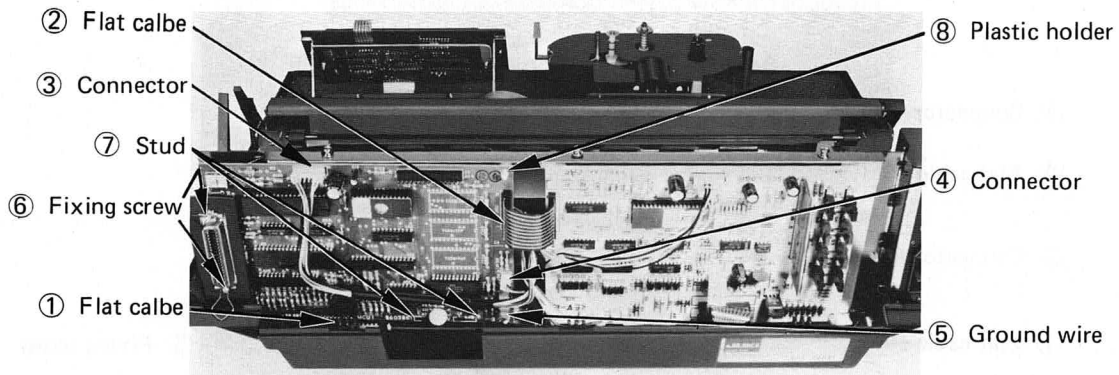

Fig 5.31
- Step 2. Remove flat cable ① and ②, connectors ③ and ④, and ground wire ⑤. (Fig. 5.31)
- Step 3. Remove two connector fixing screws ⑥. If the printer has an optional circuit board, also remove two studs ⑦. (Fig. 5.31)
- Step 4. Release the circuit board from the hooks of plastic holder ⑧. (Fig. 5.31)